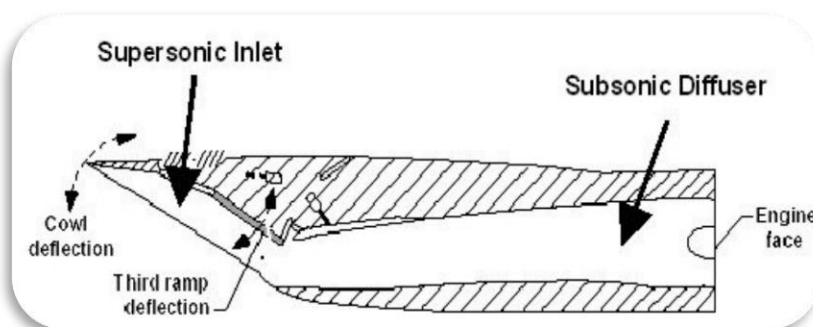

Figure 9. The F-15 Eagle has movable ramps and cowls in order to permit a smooth transition from supersonic airflow to subsonic airflow.
2. Moving a lateral wall or ramp to a higher angle in order to create a stronger oblique shock wave front. (*Figure 9*)